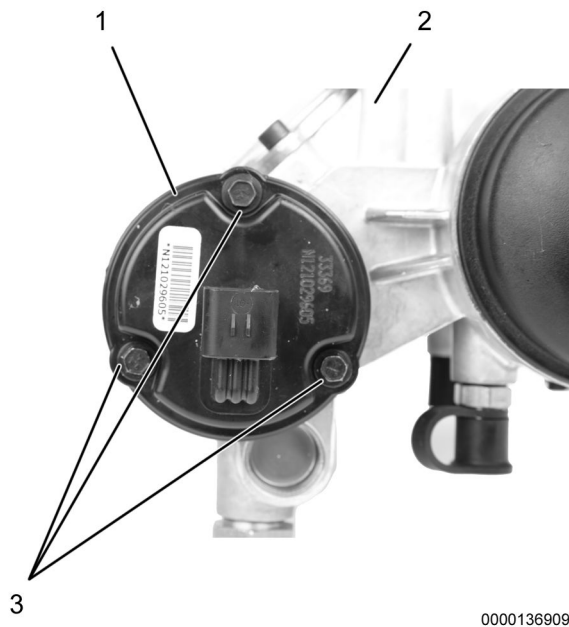

Figure 9. Pump Cover.
4. Install pump cover (Figure 9, Item 1) onto fuel filter assembly (Figure 9, Item 2) with three new M5 x 25 screws (Figure 9, Item 3).
5. Using torque wrench, tighten three M5 x 25 screws (Figure 9, Item 3) to 44 lb-in (5 N·m). **Do not over tighten pump cover screws.**